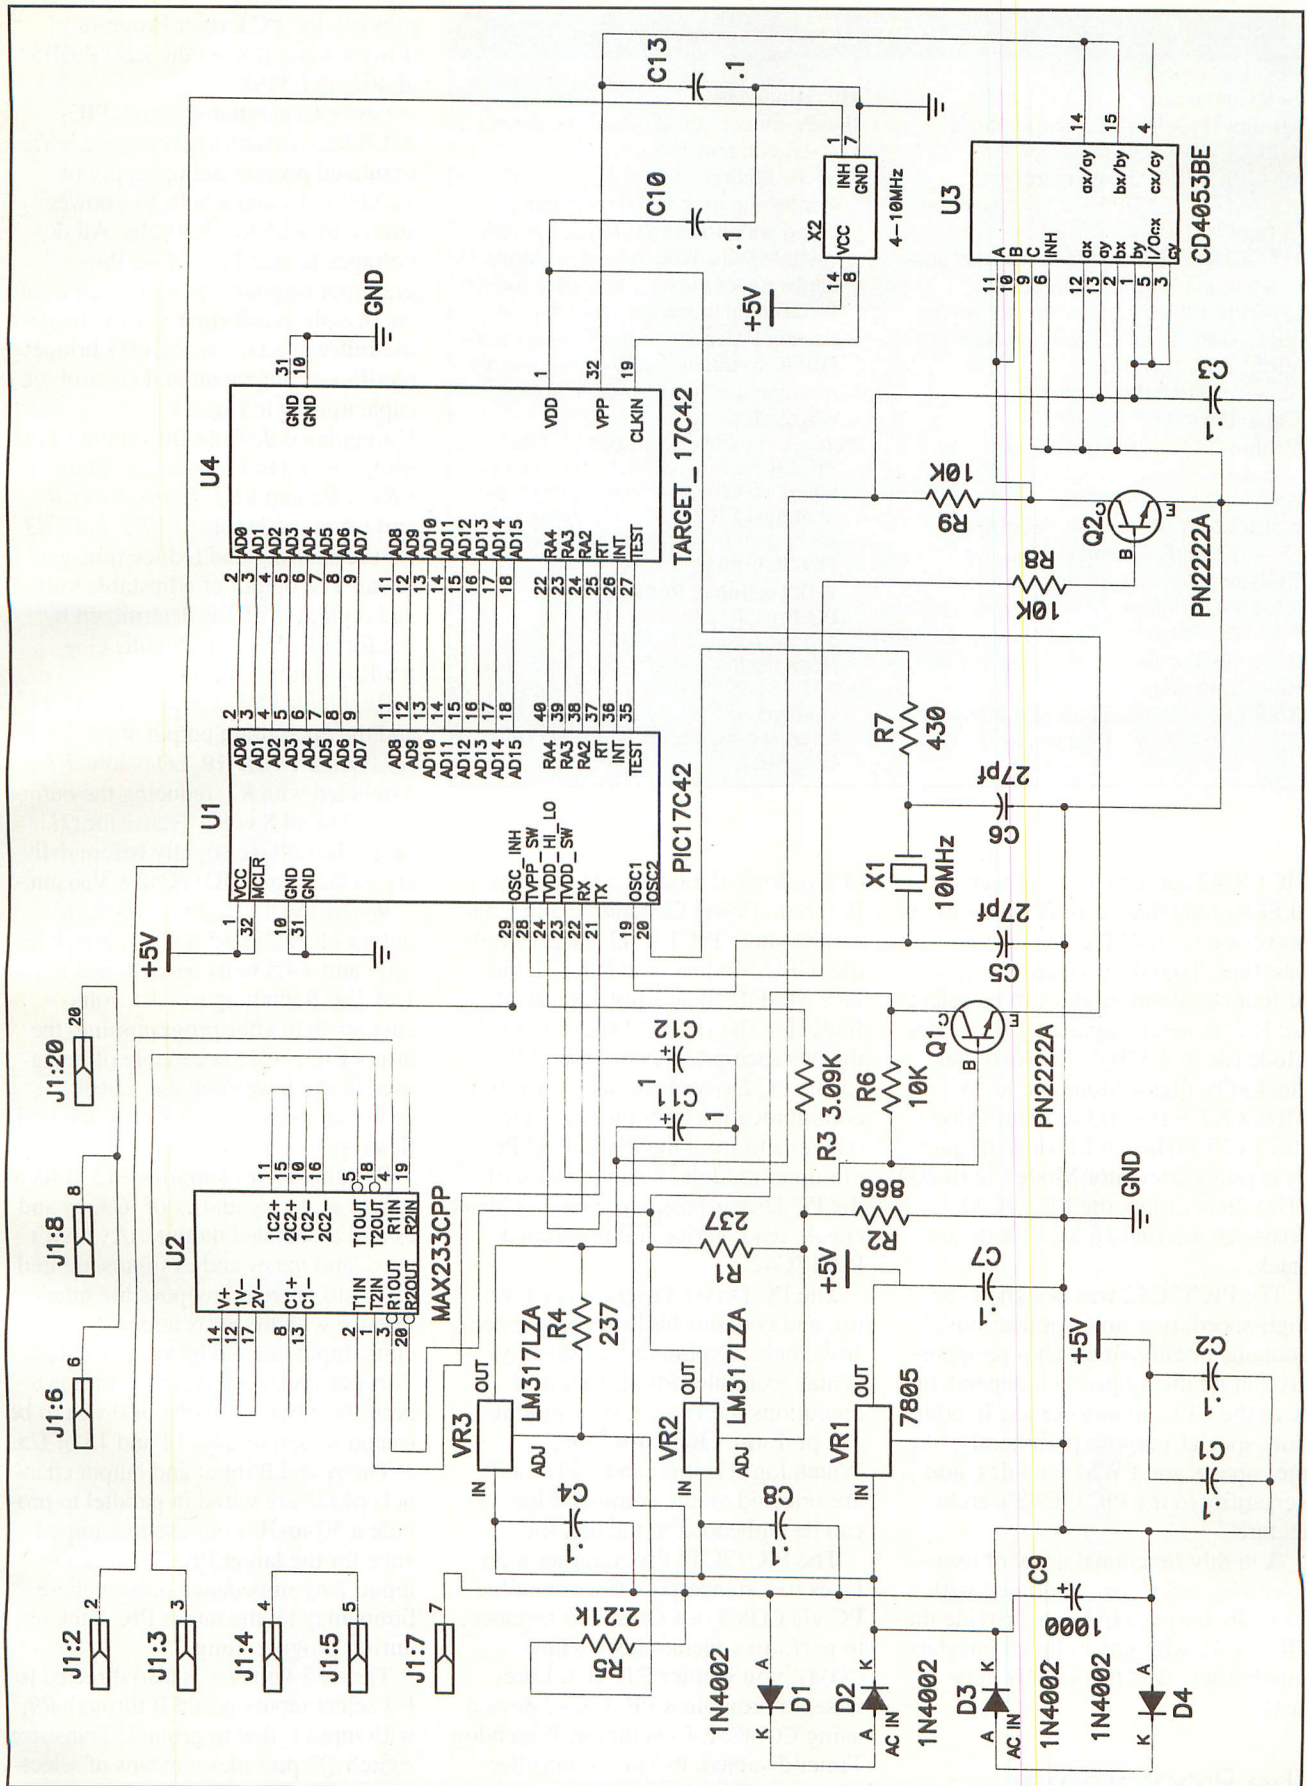

Fig. 11. Complete schematic diagram of PIC17C42 Controller circuitry.
**• Power Generation/Control.** PIC-17C42 microcontrollers require a  $V_{PP}$  regulated programming supply of +13.00 volts and a bulk  $V_{DD}$  power source of +4.5 to +5.5 volts. All dc voltages for the PIC17C42 Programmer originate from the output of an 18-volt transformer (ACIN) feeding the full-wave D1 through D4 bridge rectifier arrangement and electrolytic capacitor C9 in Fig. 11.